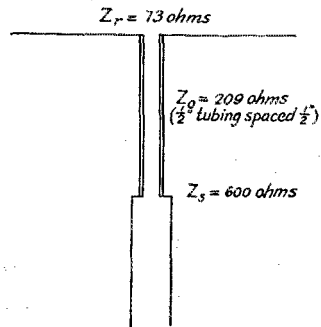

Fig. 5 — The "Q" matching section used between a half-wave antenna and a 600-ohm line.
In the case of an antenna system (see Fig. 5) Z_s is the characteristic impedance of the transmission line, Z_r is the impedance of the antenna, and Z_o is the characteristic impedance of the quarter-wave matching section. If l had been assigned a length of $3\lambda/4$, $5\lambda/4$, or any odd quarter wavelength, the result would have been the same as that of equation (15) — in other words, any odd quarter wavelength of line may be used as an impedance-matching transformer.